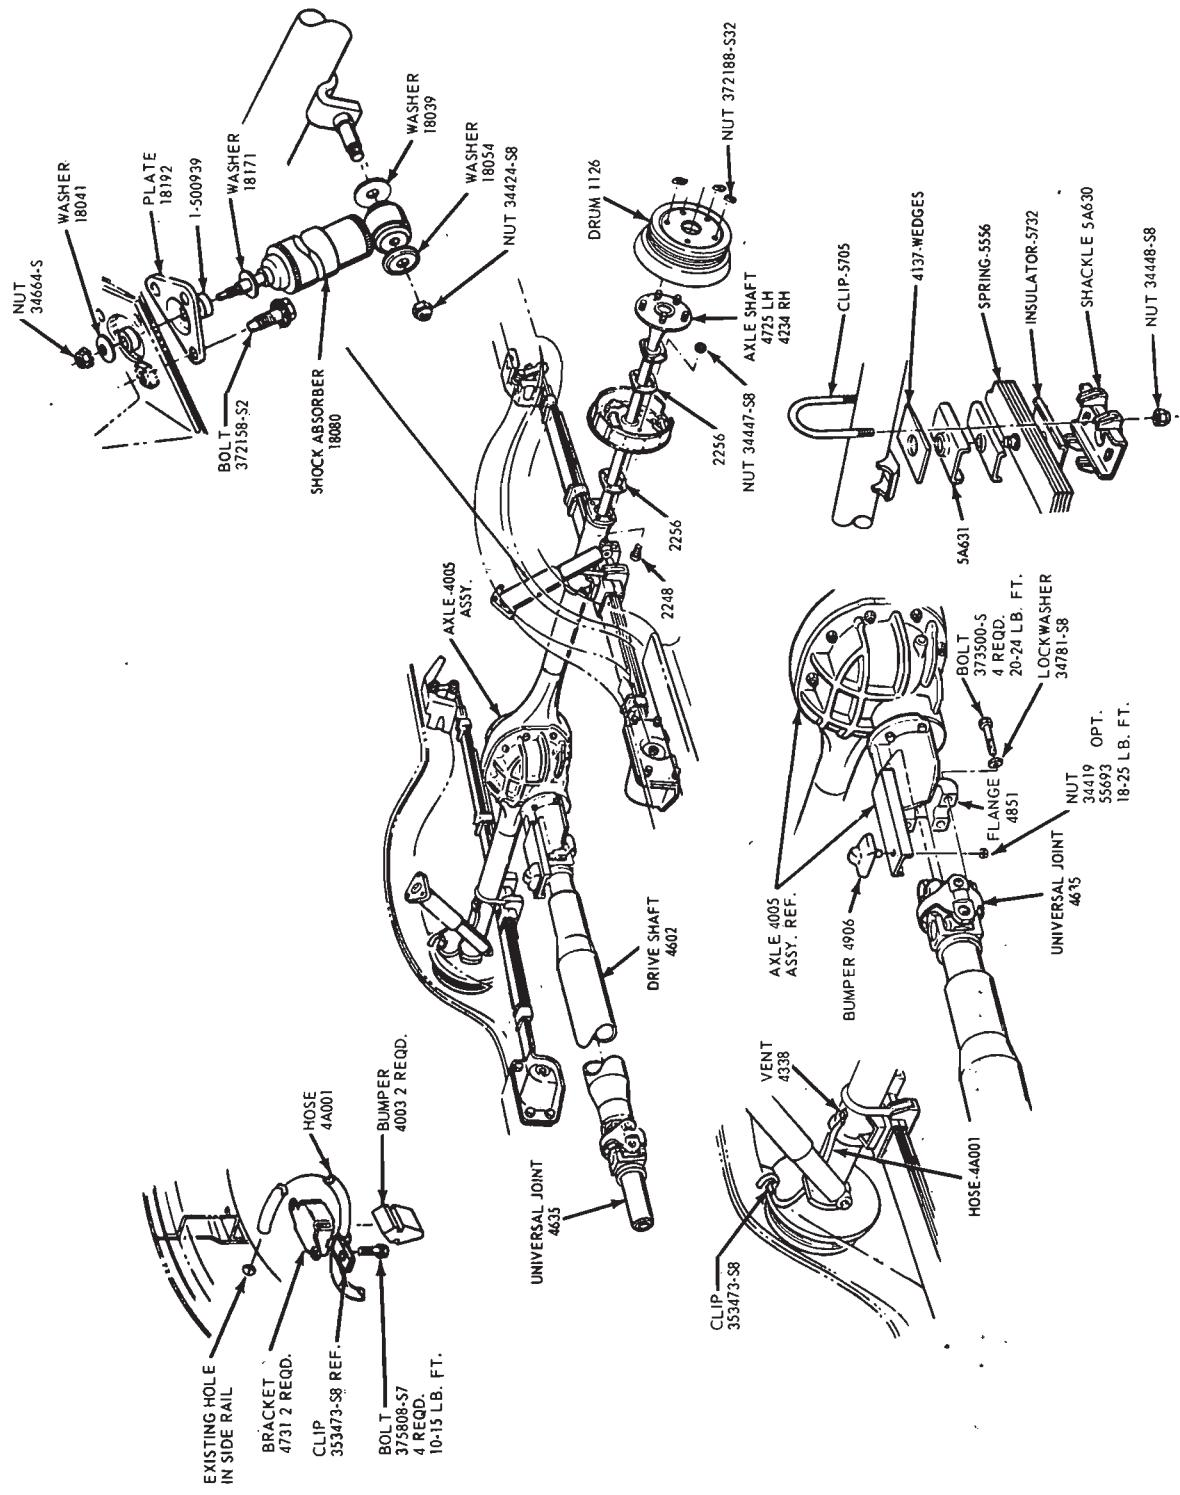

FIG. 15—Rear Axle Installation—Typical Leaf Spring Suspension
10. Support the rear axle housing on a jack, and then remove the spring clip nuts. Remove the spring clip plates (Fig. 15).